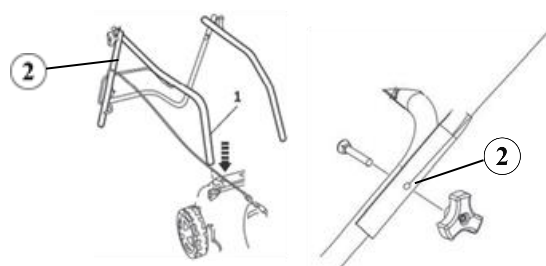

Fig. 2
1. Place the lower handle bar (Fig. 2 -1) in correspondence of the holes on the mower carter (see arrow) and secure it in place with the 2 screws and nuts included.
2. Assemble the top handle bar (Fig. 2 -2) to the bottom using the 2 long screws and the 2 wing nuts provided (Fig.2-2).